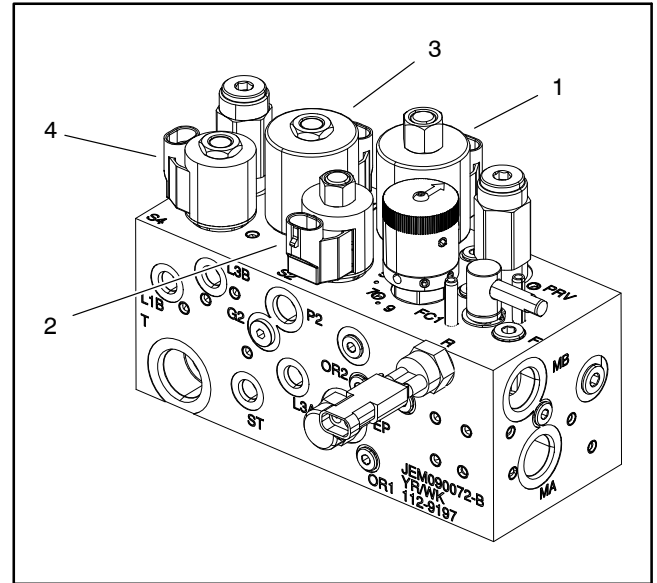

Figure 17
1. Determine solenoid coil(s) that is to be tested and locate coil on hydraulic manifold (Fig. 17). Disconnect harness electrical connector from solenoid valve coil.